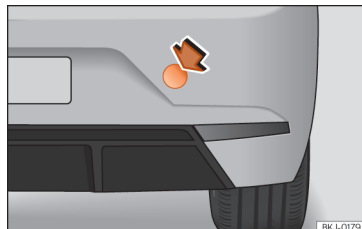

Fig. 47 On the right side of the rear bumper: remove the cover.
The housing of the screw towing eye is on the right side of the rear bumper behind a lid »» Fig. 47.
- Press the top right hand side of the cover »» Fig. 47 to unclip it.